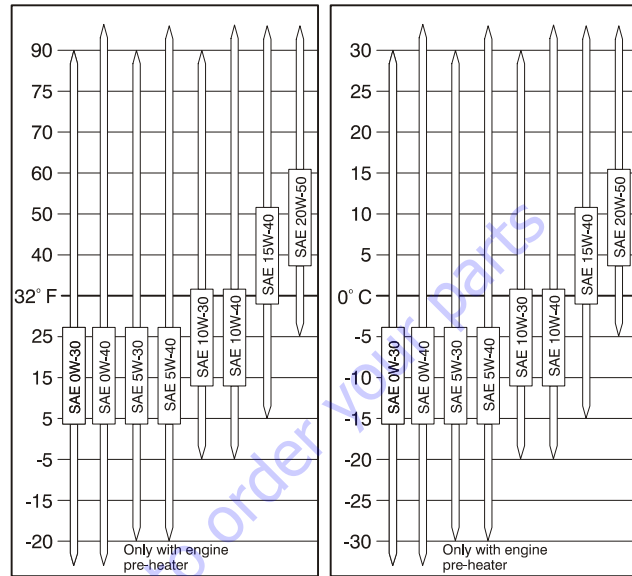

Figure 3-58. Engine Oil Viscosity
8. Pour in new engine oil. Refer to Section 1 for capacity and refer to Figure 3-58., Engine Oil Viscosity for the proper grade.